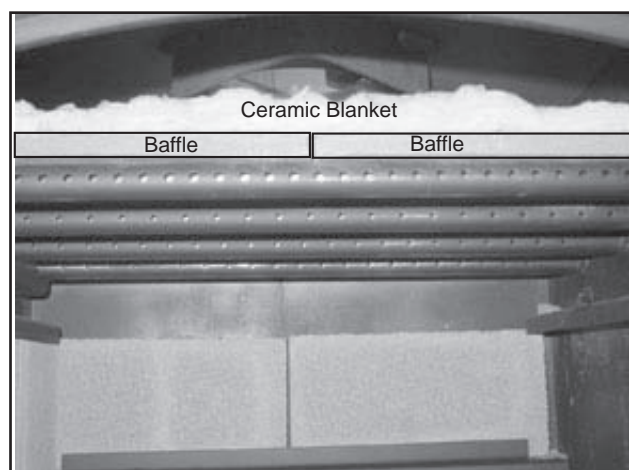

Figure 22.2
4. Re-install in reverse order. Be sure the baffle boards and ceramic blanket are in their proper positions. **Figure 22.2.**